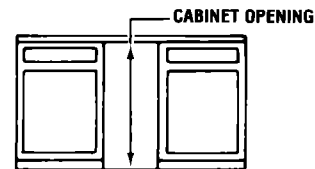

FIGURE 9
8. Before moving the compactor into position, measure the cabinet opening as shown in Figure 9. To determine if height adjustment is required, see steps 9 and 10 below.